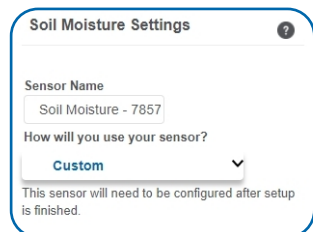

Figure 3
**Select your use case. See Figure 3.**
Another method of installing sensors in difficult gravelly soils, or at deeper settings is to use a "stepped" installing tool (see Fig. 3). This makes an oversized hole for the upper portion and an exact size hole (sensor is 7/8" [22 mm] O.D.) for the lower portion where the sensor is located. The hole must be carefully backfilled and tamped down to prevent air pockets, which could allow water to channel down to the sensor.